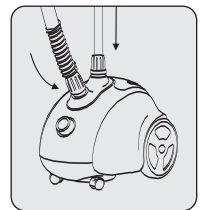

Figure3
2. First, loosen the already pre-threaded brace so there is room for the pole to be inserted. Once the brace is loosened, insert the bottom of the telescope pole into the base as shown in Figure 3
6. Put the Hose onto the threaded Hose Base by turning the fitting on the end of the Hose clockwise (See Figure 3). Hands tighten only. Do not over-tighten.